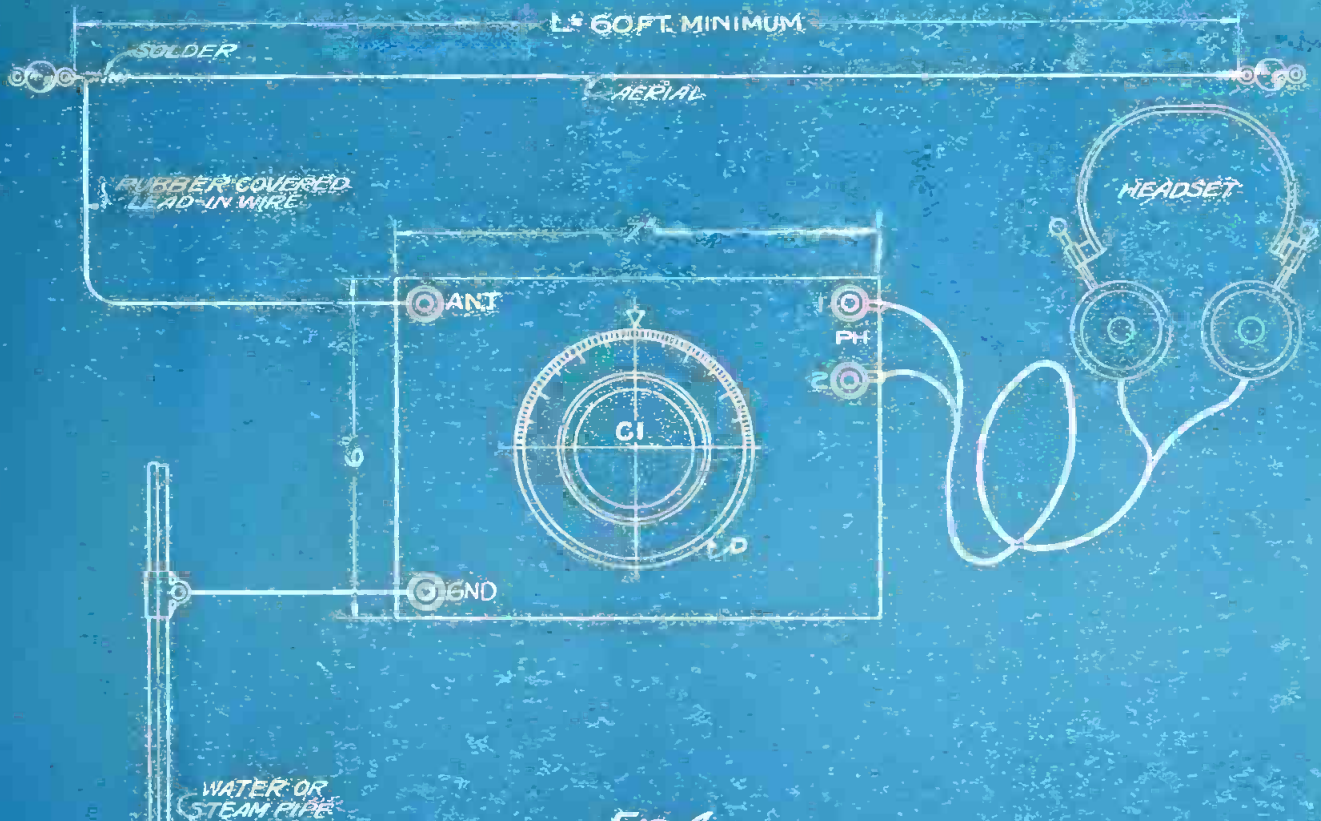

FIG. 4
It is most convenient to mount the apparatus on a 6 in. x 7 in. x 3-16 in. panel as shown by Fig. 4 with the tuning dial (D) appearing on the front of the panel as shown. The aerial binding post is at ANT, the ground connecting post at GND, and the phone posts at PH. The method of connecting to the aerial and ground is also shown in this view, the ground being a connection to a water or steam pipe.